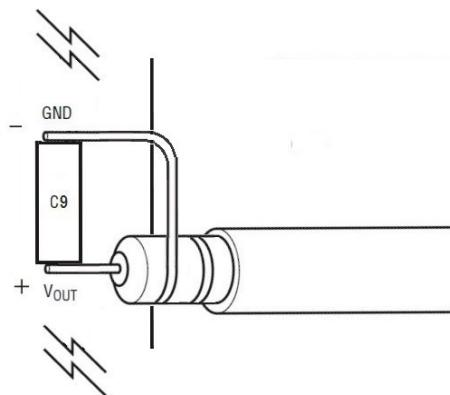

Figure 6. Measuring Output Ripple at Output Capacitor C9
**NOTE.** When measuring the input or output voltage ripple, care must be taken to avoid a long ground lead on the oscilloscope probe. Measure the output voltage ripple by touching the probe tip directly across the output capacitor. See Figure 6 for the proper scope technique.